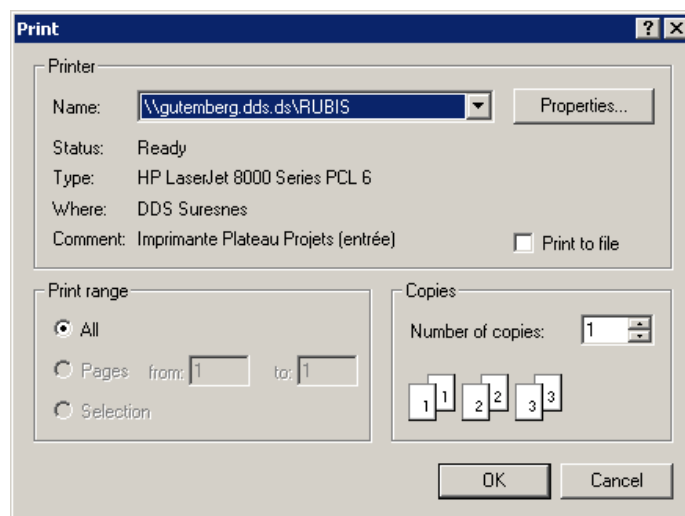

Figure 161 : Printing window
- The *Printing* window is displayed (Figure 161).